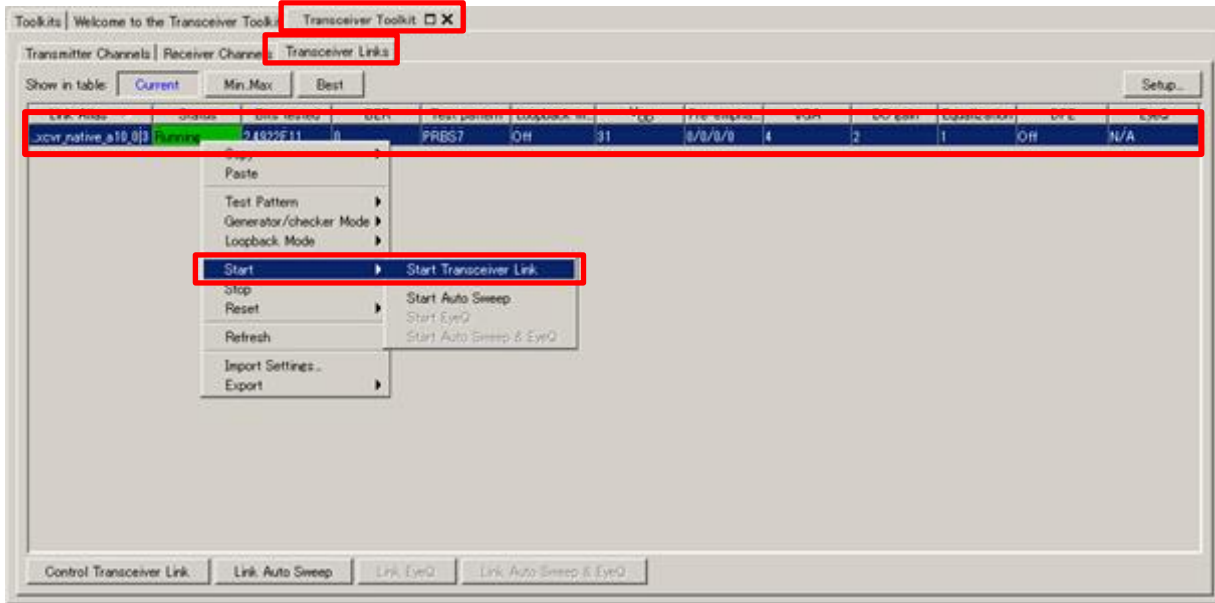
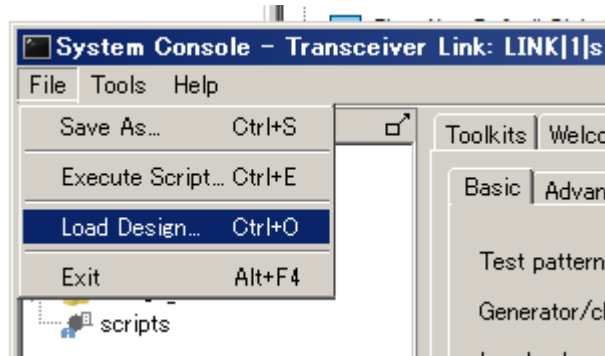

Figure 5-4 Transceiver Toolkit Operation Window
Figure 5-5 Loading sof File
- 10) After starting up the Transceiver Toolkit, wait a short time for the window in Figure 5-4 to appear. Select the “Transceiver Toolkit” → “Transceiver Links” tabs and then highlight the link that is shown in the list in Figure 5-4.
If you want to change the sof file, or if the window in Figure 5-4 does not open, select the same sof file as the file written to the FPGA previously by selecting “File” → “Load Design...” as shown in Figure 5-5.
- 11) Right-click in the highlighted part to open a context menu, as shown in Figure 5-4. At this point, click “Start” → “Start Transceiver Link” to start the test. If the reception status on the receiver channel side is green and the bit error rate is 0, then that means the loopback operation is running normally, as shown in Figure 5-6.